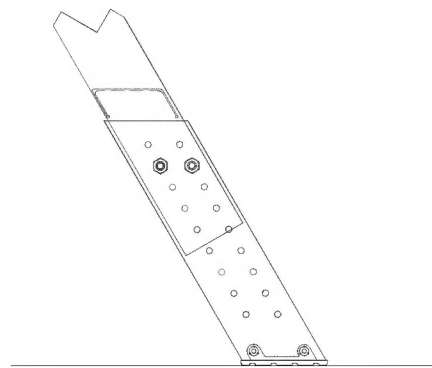

Figure 9
14. Slide the adjustable shoe onto the bottom rail. Align the holes in the adjustable shoe with the closest set of holes in the side rails so that the shoes are flat on the ground and there are no gaps between the sections. See Figure 9.
16. Attach the adjustable shoes using (2) 1/4" bolts, washers and locknuts per side.